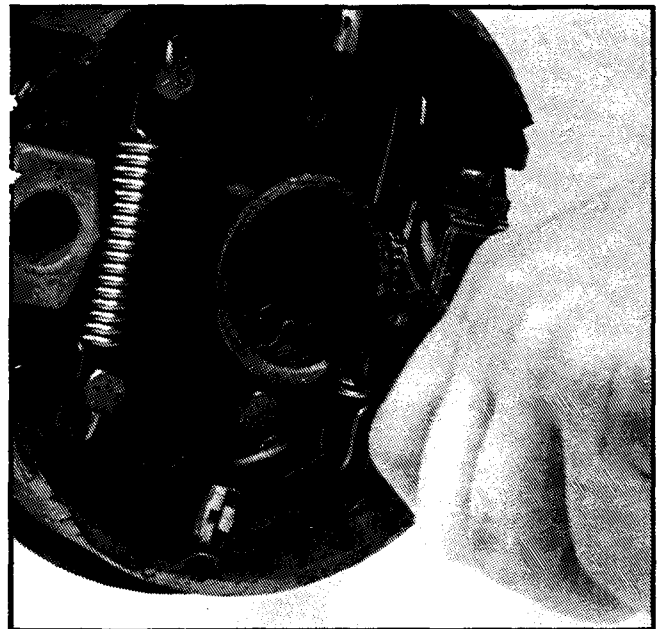

FIG. M-7
Remove the inner snap ring (3). Fig. M-7 and M-8.
Install the inner snap ring. Fig. M-7.
Carefully insert axle shaft and bearing assembly through oil seal. Rotate shaft until spline engages with differential side gear. Install outer snap ring (2). Fig. M-7.